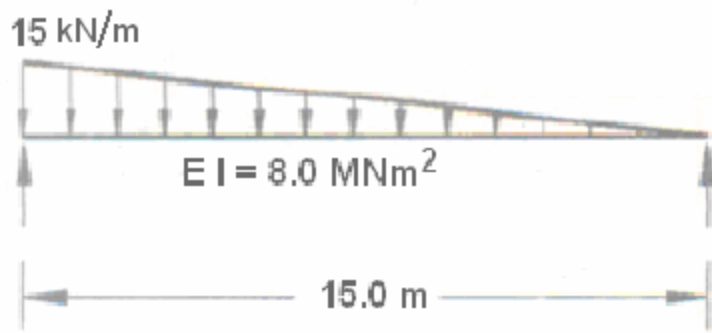

Figure 7
7. Compute the maximum deflections and support rotations in the beams of the following figure 7 using